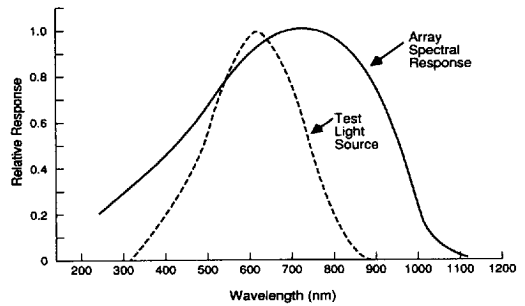

Figure 7. Relative Spectral Response as a Function of Wavelength
range from near UV to near IR. A quartz window is standard. Relative spectral response is shown as a function of wavelength in Figure 7.
As most applications for these devices (OCR, machine vision, etc.) use visible light, the responsivity and uniformity of response are specified using a source with the spectral distribution shown by the dotted line in Figure 7. This spectral distribution is produced by filtering a 2870°K tungsten source with a Fish-Schurman HA-11 heat-absorbing 1 mm thick filter.
- 3 Measured using 2870°K light source of Figure 7. Filtered with Fish-Schurman HA-11 heat absorbing filter